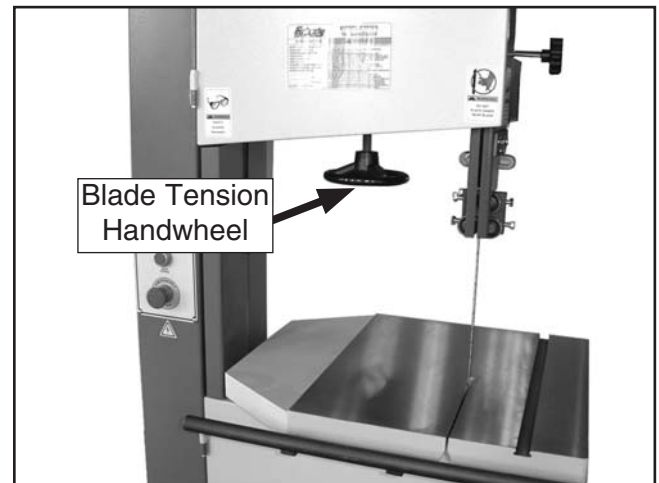

Figure 14. Table installed correctly.
10. Close the wheel covers. The table should look like **Figure 14** when properly installed.